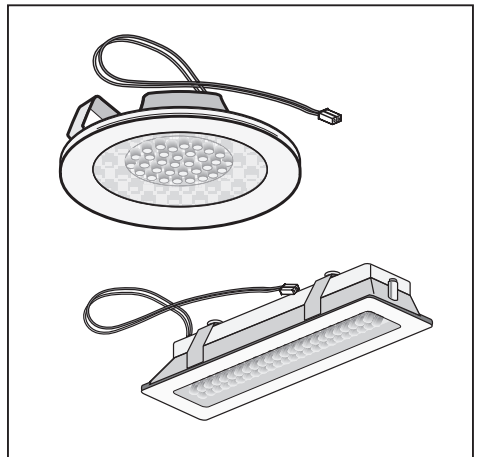

Fig.20
• **Replacing LED lamps (Fig.20):**